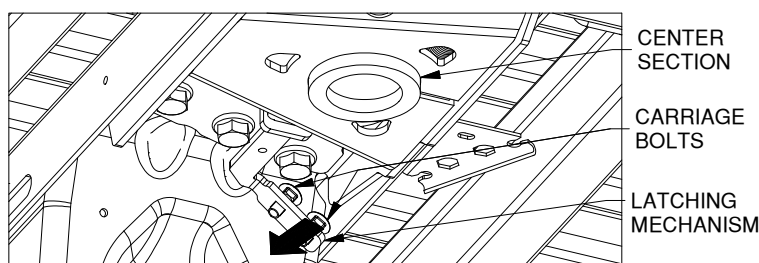

Figure D3: Looking up at center section.
3. **Install bolts.** Retract the latching mechanism by pulling on the tab with the square holes and pushing it toward the cab. From the top down, insert a 3/8" carriage bolt in each of the square holes in the latching mechanism, see Figure D3.